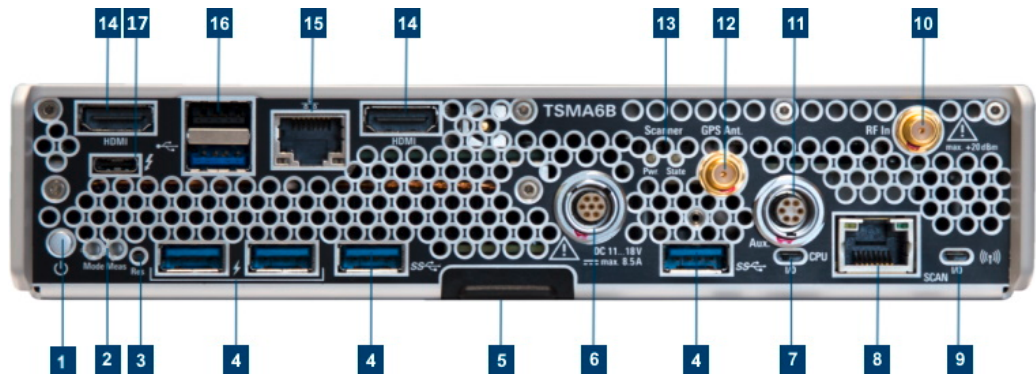

Figure 3-11: R&S T SMA6B - Rear Panel
- ▶ Connect test mobile phones to USB 3.0 / USB-C ports (see Figure 3-11 - 4, 17).
1. Ensure that the rating of the DC power supply network matches the requirements printed on the casing next to the DC input (see (6) in Figure 3-11).
See (1) in Figure 3-11.
See (2) in Figure 3-11.
See (3) in Figure 3-11.
See (4) in Figure 3-11.
See (5) in Figure 3-11.
See (6) in Figure 3-11.
See (7) in Figure 3-11.
See (8) in Figure 3-11.
See (9) in Figure 3-11.
See (10) in Figure 3-11.
See (11) in Figure 3-11.
See (12) in Figure 3-11.
See (13) in Figure 3-11.